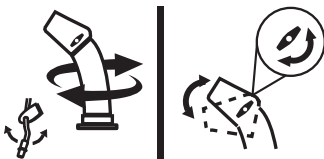

Figure 67
- To change the direction in which snow is thrown, rotate the control (Figure 67).